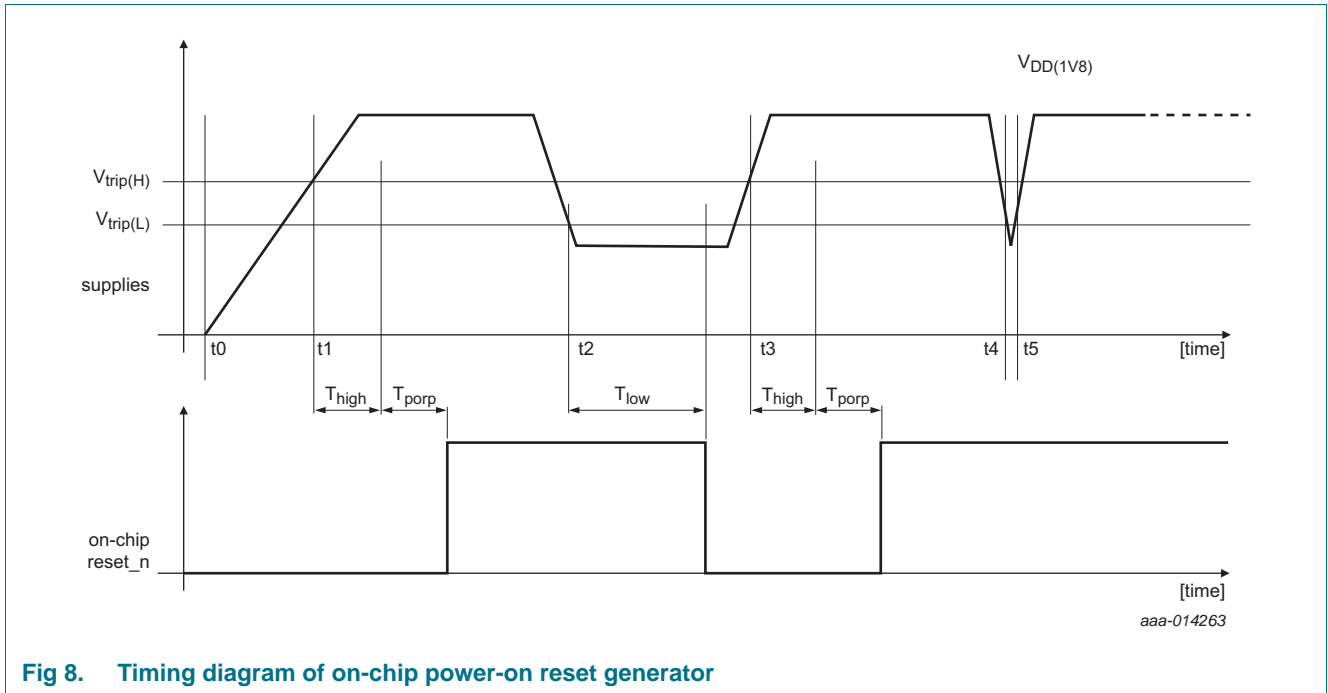

Fig 8. Timing diagram of on-chip power-on reset generator
Figure 8 shows a possible curve of the regulated VDD(1v8) voltage with dips at t2 to t3 and t4 to t5. The on-chip reset\_n (active LOW) starts active at t0. At t1, the voltage gets higher than the Vtrip(H) level and if this condition is maintained for a period longer than Thigh, a delay element will add another Tporp before the on-chip reset\_n is de-asserted. If the voltage drops below Vtrip(L) for a period longer than Tlow, the reset\_n is re-asserted. If the supply dip is shorter (eg. t4 to t5) the internal reset is not asserted. This means that voltage drops less than Tlow must be avoided in the system.